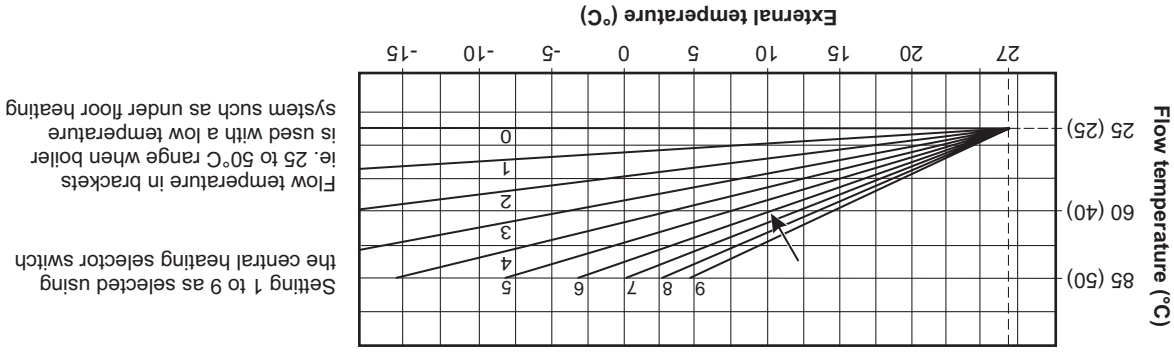
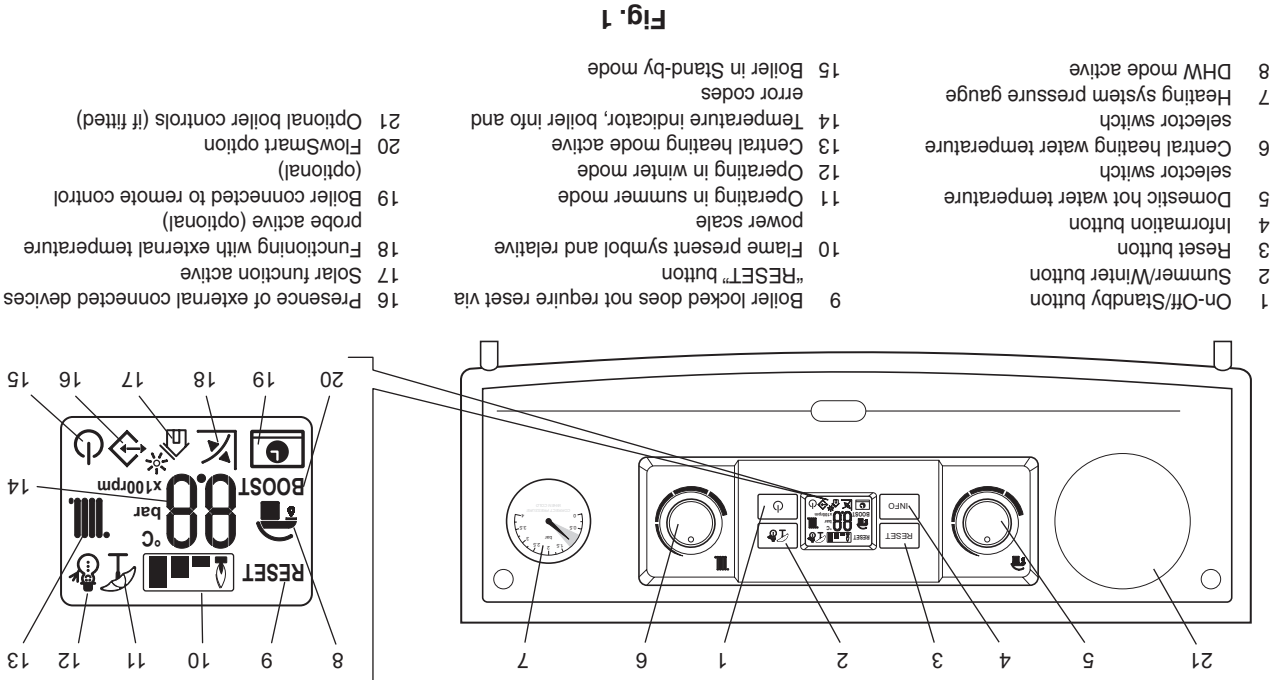

Fig. 2 - External weather compensation probe fitted
Fig. 1
On - In this mode the boiler can be switched between 'Summer' or 'Winter' settings by pressing the Summer/Winter button (item 2 in Fig. 1).
The temperature of the hot water to the taps can be adjusted by turning the hot water selector switch (item 5 in Fig. 1) to the required value shown on the display in °C.
The temperature of the central heating water can be adjusted by turning the central heating selector switch (item 6 in Fig. 1). When the heating is on the temperature of the water leaving the boiler to the radiators will be displayed.
If an external weather compensation probe is fitted, indicated by the  symbol (item 18 in Fig. 1) in the display, it will automatically vary the temperature of the water in the radiators and on mild day the radiators will not feel as hot as on a cold day, this is normal and not a fault with the boiler or heating circuit. The room temperature will still be maintained as set by the room thermostat.
When an external weather probe is fitted, the central heating selector switch (item 6 in Fig. 1) will no longer adjust the flow temperature in °C, instead the display will show a scale of 1 to 9. Each number corresponds to a line on the graph in Fig 2 i.e. line 6 will give a flow temperature of 60°C when the external temperature is 10°C.
You should see the pressure gauge (item 7 in Fig. 1) rise back up into the green area on the pressure gauge between 1 bar and 1.5 bar pressure.
Make sure the heating system is filled and the needle on the pressure gauge (item 7 in Fig. 1) is in the green band. If incorrect refer to Section 5.
Switch the boiler on at the mains supply socket switch. The boiler will automatically go through a system purging operation for 8 minutes; this is indicated by a count down on the display starting from 96. During this operation the pump will turn on and off to help remove any air that may be trapped in the heating system. If the boiler has already been commissioned by the installer then this operation can be terminated by pressing the reset button (item 3 in Fig. 1).
By pressing the On-Off button (item 1 in Fig. 1) the Standby or On mode can be selected, or press and hold the On-Off button for eight seconds to turn the boiler off.